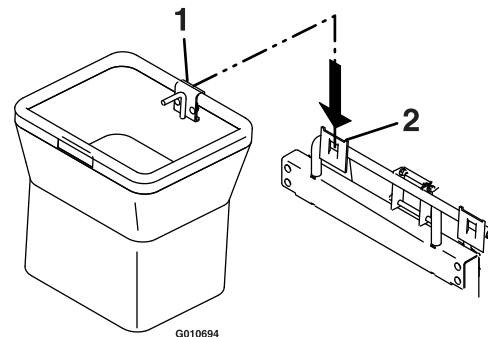

Figure 5
4. Install the bags by sliding the bag frame hook onto the retaining bracket (Figure 5).
4. Open the hood and remove the two bags from the bag frame hooks (Figure 5).